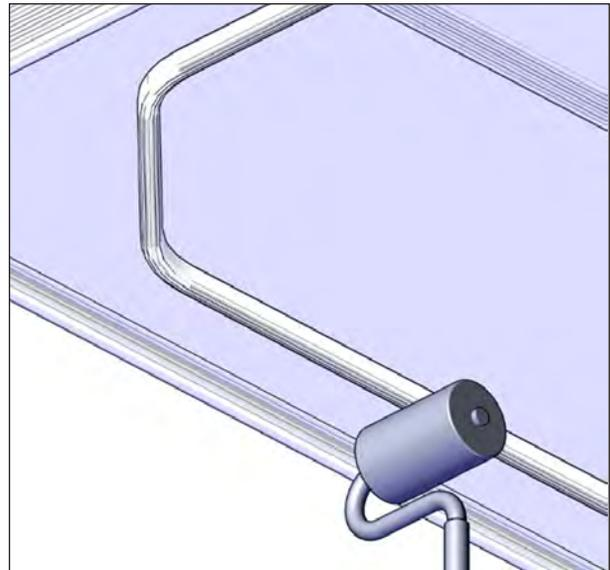

FIGURE 119: APPLY PRESSURE WITH ROLLER
12. Once satisfied that the seal is released, lift up the cover 36" (91 cm) high. Apply a minimal pressure of 15 psi (103 kPa) on the seal with the roller as shown in Figure 119 to properly bond the adhesive to the underside of the cover.